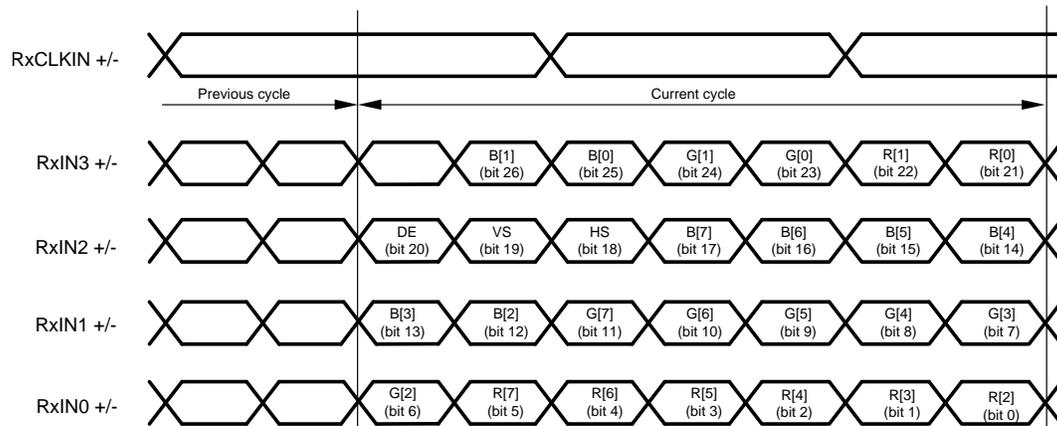

Figure 24. 8–Bit Channel Link Mapping: LSB's on RXIN3
- An alternate mapping scheme is available (LSBs on LVDS Channel 3) by configuring the MAPSEL pin to low. See Figure 24 for the alternate LVDS mapping.